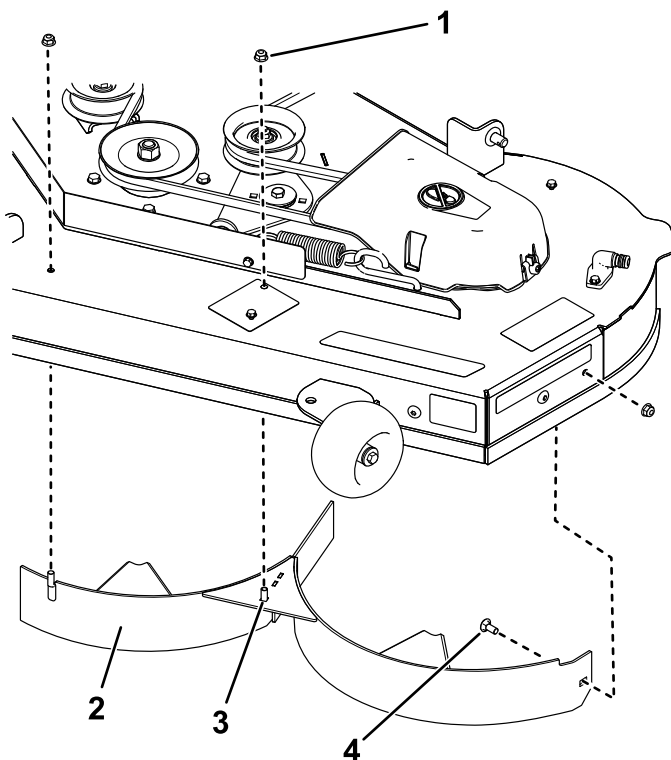

Figure 14
7. Remove the 2 locknuts (5/16 inch) from the welded posts of the left baffle (Figure 14).
8. Remove the carriage bolt and locknut securing the left baffle to the deck and remove the baffle (Figure 14).
9. Locate the 2 bolts in loose parts and use the existing locknuts and install these fasteners into the holes shown in Figure 14 on the mower deck to prevent flying debris.